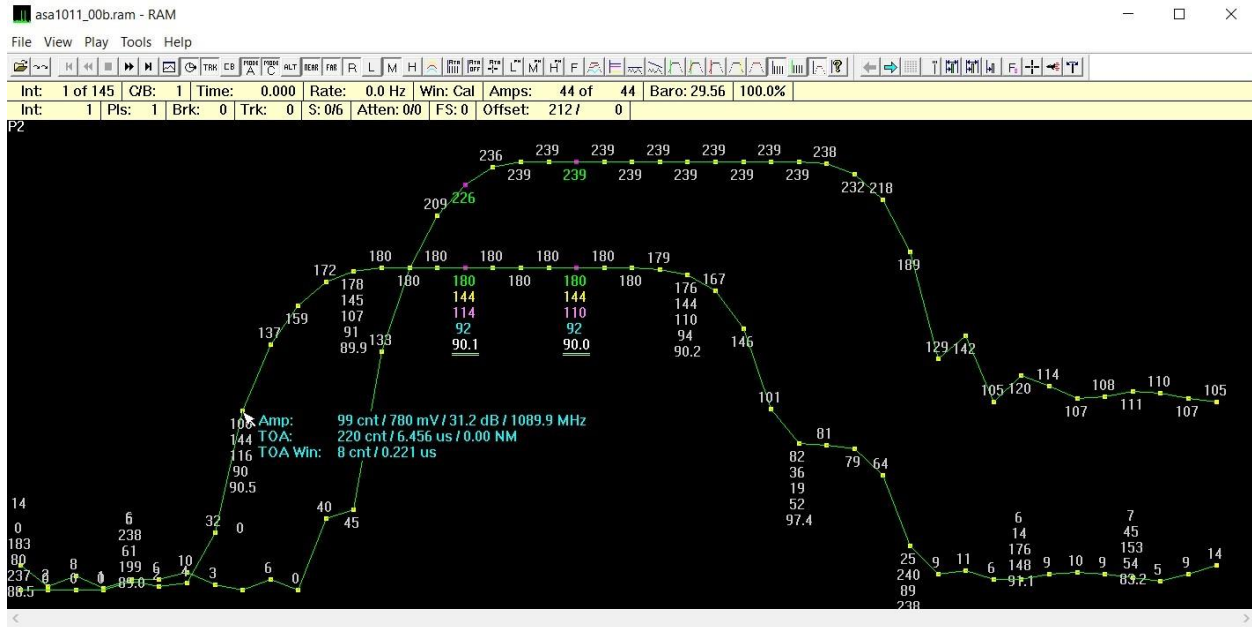

Figure 6-3. ASA and ATA Channels Selected
9. In the RAM tool ensure the Reference (ASA) Medium (ATA) channel are selected (See Figure 6-3).
10. If pulse is not centered in the window (See Figure 6-3), perform the following:
- i. If the pulse is visible in the RAM window, hold “Shift” and click on approximately the midpoint of the leading edge of the ASA Ref pulse. This will display a dialogue box with the TOA near bias listed in μs (See Figure 6-3). Convert this number to ns ($6.456 \mu\text{s} = 6,456 \text{ ns}$) and enter in the Near field.